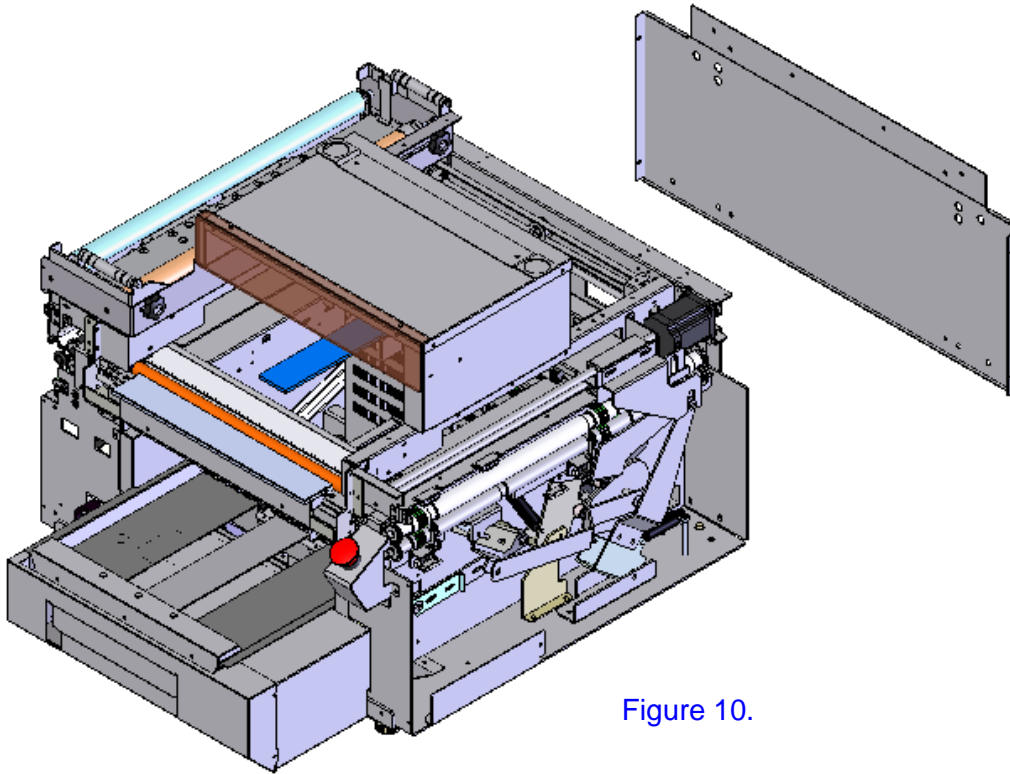

Figure 10.
15. Remove the rear, lower cover (six screws). See Figure 10.